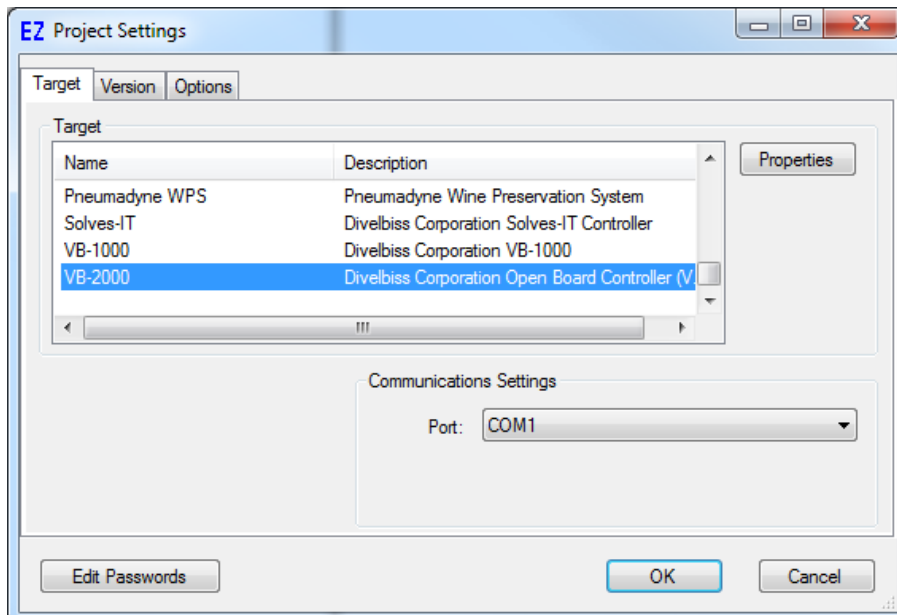

Figure 2-3 - Project Settings Window
1. In EZ LADDER, from the File Menu at the top, click **PROJECT** then **SETTINGS**. This will open the Project Settings Window. Select **VB-2000** as the target from the choices. Refer to Figure 2-3.